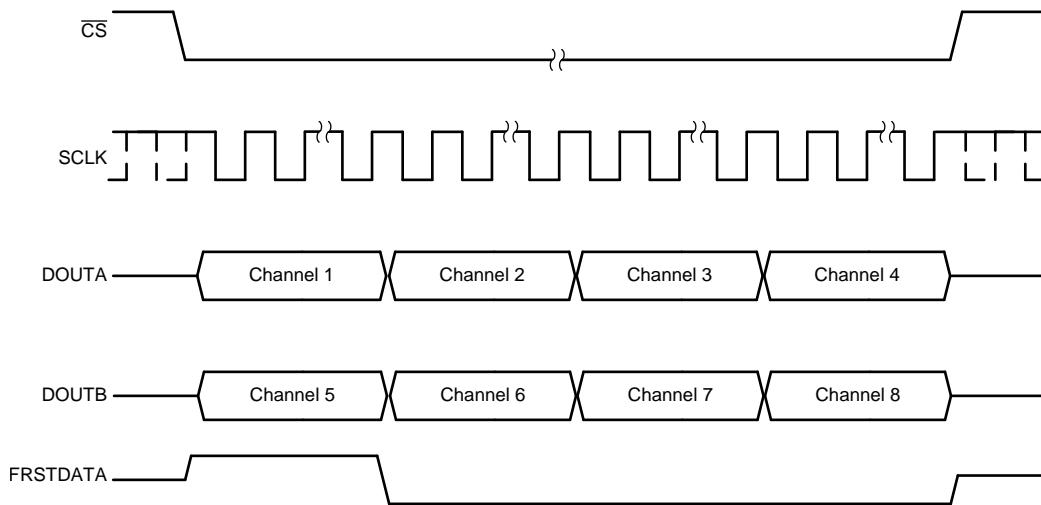

Figure 70. Data Read Back in the Serial Interface Using Both DOUTA and DOUTB Timing Diagram
- In order to minimize the time for the data read operation in serial mode, both DOUTA and DOUTB can be used to read data out of the device. In this case, the conversion results from the first set of channels (channels 1-4 for the ADS8578S) appear on DOUTA and the conversion results from the second set of channels (channels 5-8 for the ADS8578S) appear first on DOUTB. To read the data for all channels, provide a total of $14 \times 4 = 56$ SCLK cycles for the ADS8578S. This entire data frame can be created within a single CS pulse or each group of 14 SCLK cycles can be individually framed by the CS signal. Figure 70 shows an example timing diagram.